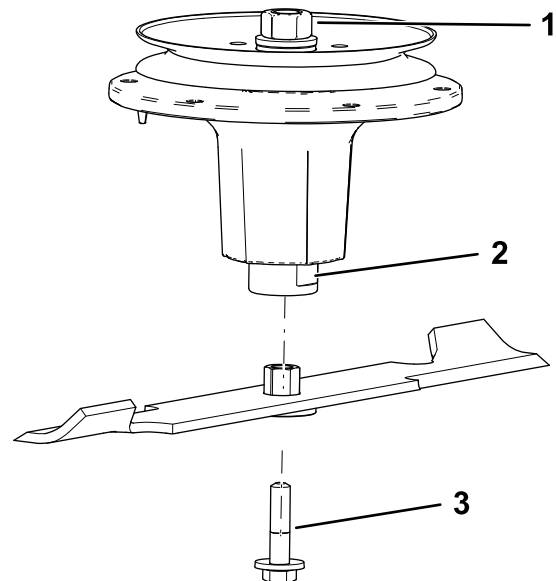

Figure 105
2. Install the bushing/blade assembly into the spindle shaft (Figure 105).